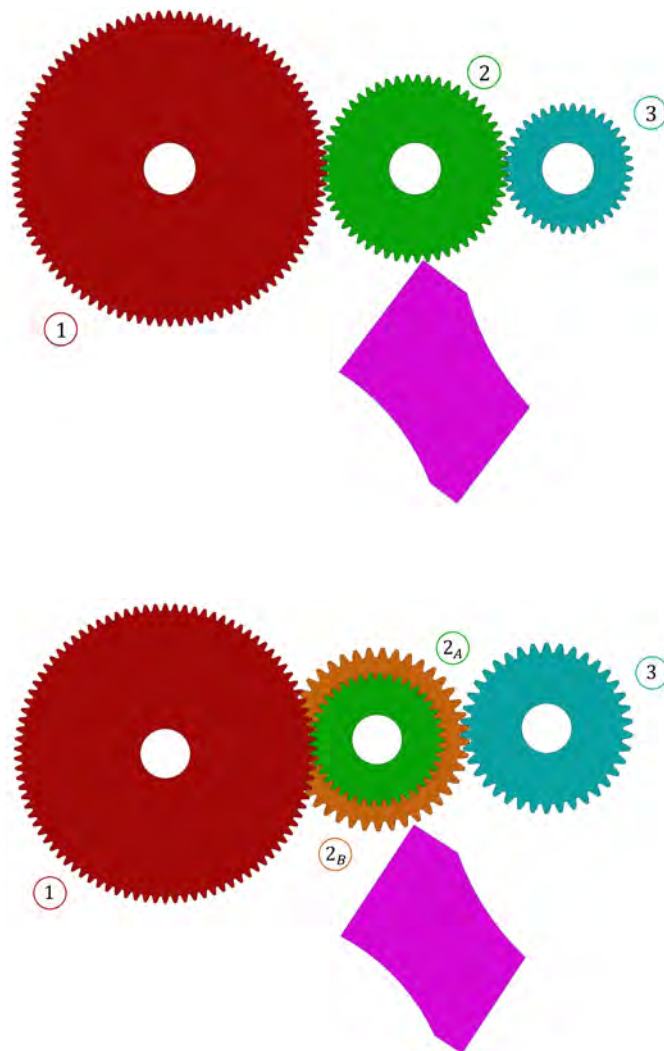

Figure 3—Baseline geartrain designs. On the top, the architecture with idler gears; on the bottom, the architecture with the compound shaft.
21), configured with an idler gear and gears' tooth numbers of 94-55-38, as well as operating pressure angles of 21.22 degrees and 21.02 degrees. The corresponding baseline compound configuration was defined by maintaining the same overall transmission ratio and keeping the positions of the input and output shafts unchanged. Figure 3 illustrates both baseline configurations, distinguishing the idler geartrain case from the equivalent compound layout. In fuchsia, the required domain for the intermediate gear center is shown. Starting from the initial layouts, the total gear ratio of the two-stage transmission was computed, along with the positions of the input and output gears. As previously described, these three quantities are treated as fixed parameters in the optimization process to identify the gear set's optimal layout and macro-geometry. The optimization process considers an operating condition characterized by a power input, P_{in} , and a rotational speed at the input shaft, n_1 .
The constraints considered were previously discussed and are summarized in Table 4 below for the specific cases examined. In particular, as for the layout constraint, it is required that the center of the idler gear (or compound shaft) lies within the feasible domain illustrated in fuchsia in Figure 3.